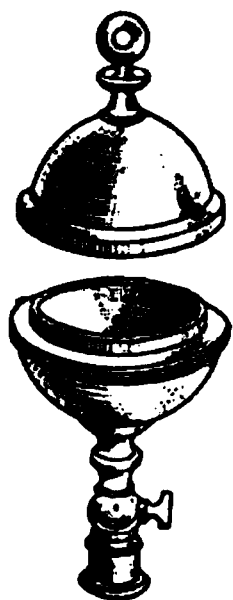

FIG. 54.—
17. The so-called Magdeburg hemispheres were invented by Otto von Guericke of Magdeburg, Germany. When the hemispheres (see Fig. 54) are placed in contact and the air exhausted it is found very difficult to pull them apart. Explain.